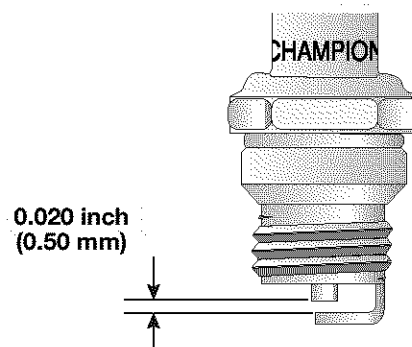

Fig. 28
Use a Champion RDJ7Y spark plug (or equivalent). Correct air gap is **0.020 in. (0.50 mm)**. Remove plug after every **25 hours** of operation and check its condition (Fig. 28).
3. Set the air gap at **0.020 in. (0.50 mm)** using a wire feeler gauge (Fig. 28). Install a correctly gapped spark plug into the cylinder head. Torque to **110-120 in•lb (12.3-13.5 N•m)**.